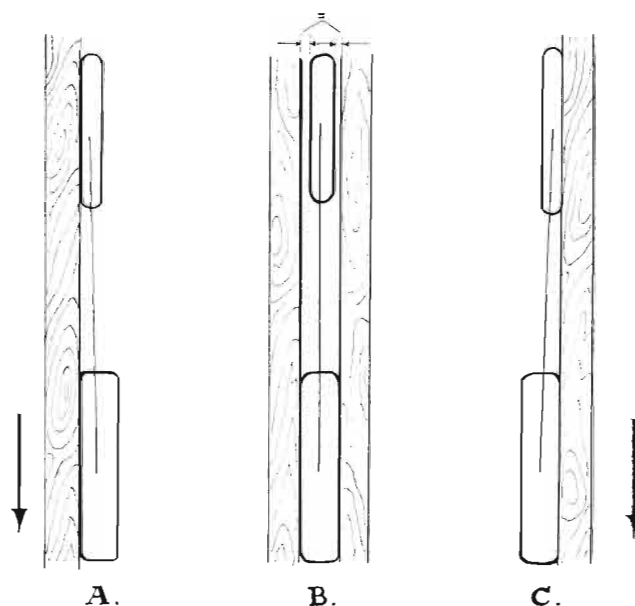

FIG. F.13. Checking alignment.
If the front tyre is of smaller section then it should be as drawing (B) Fig. F.13.